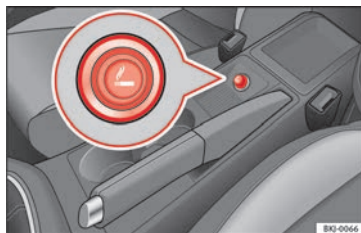

Fig. 158 Lighter.
- Press on the cigarette lighter »» **Fig. 158** to activate it »» ⚠.